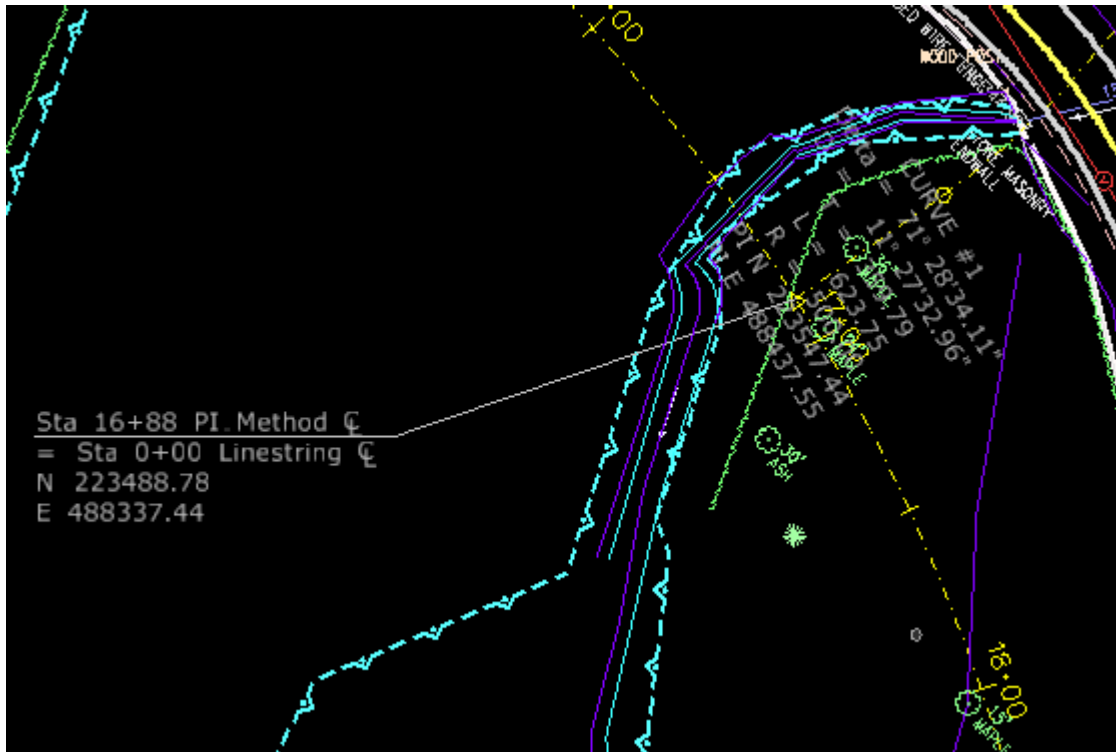

Figure 5-14 Annotated Alignment Intersection
- K. The text will now be interactive with the cursor. Click again to place the graphics at the desired location. Figure 5-14 displays a section of an annotated Alignment Intersection.